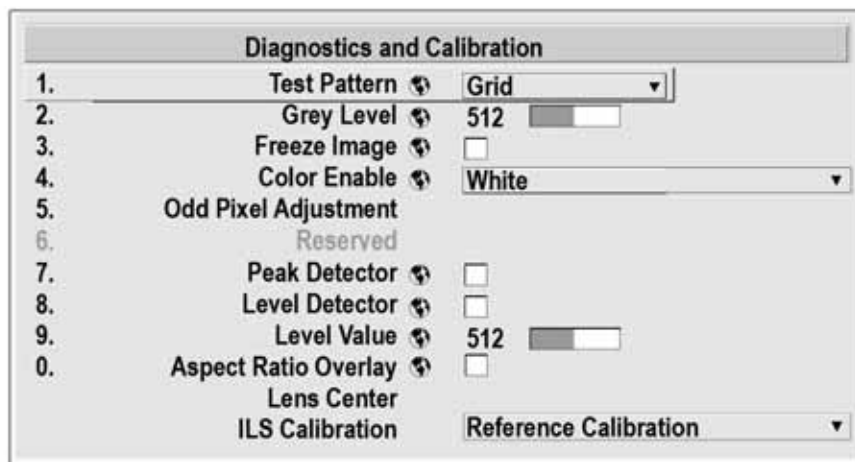

Figure 2-9 Diagnostic and Calibration Menu
7. Calibrate the lens. See Figure 2-9. For more information, see Section 3, Operation in the *Roadie HD+35K User Manual*.